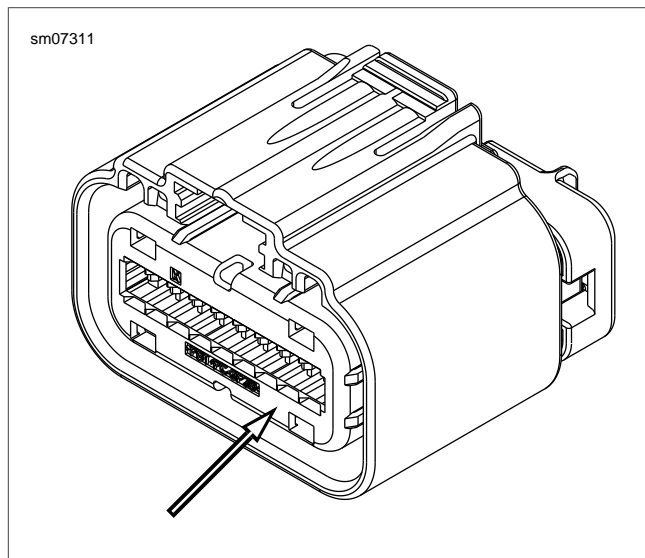

Figure A-66. Tyco GET 64 Secondary Lock
2. See Figure A-66. Use needle nose pliers to pull the secondary lock out of the housing.